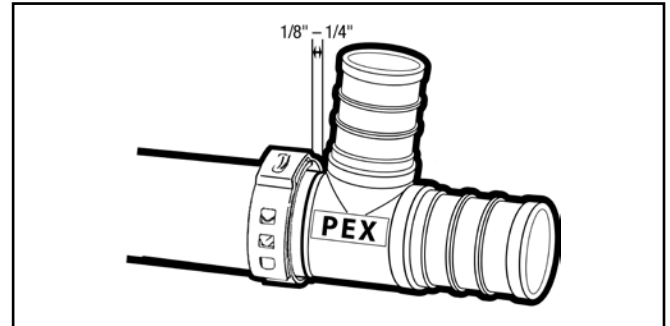

Fig. 4: Insert fitting/position clamp
1. Per ASTM F2098, insert fitting into tubing until shoulder or tube stop contacts end of tubing. Position clamp within 1/8" to 1/4" (3.2 to 6.4 mm) of tube end. (Fig. 4)